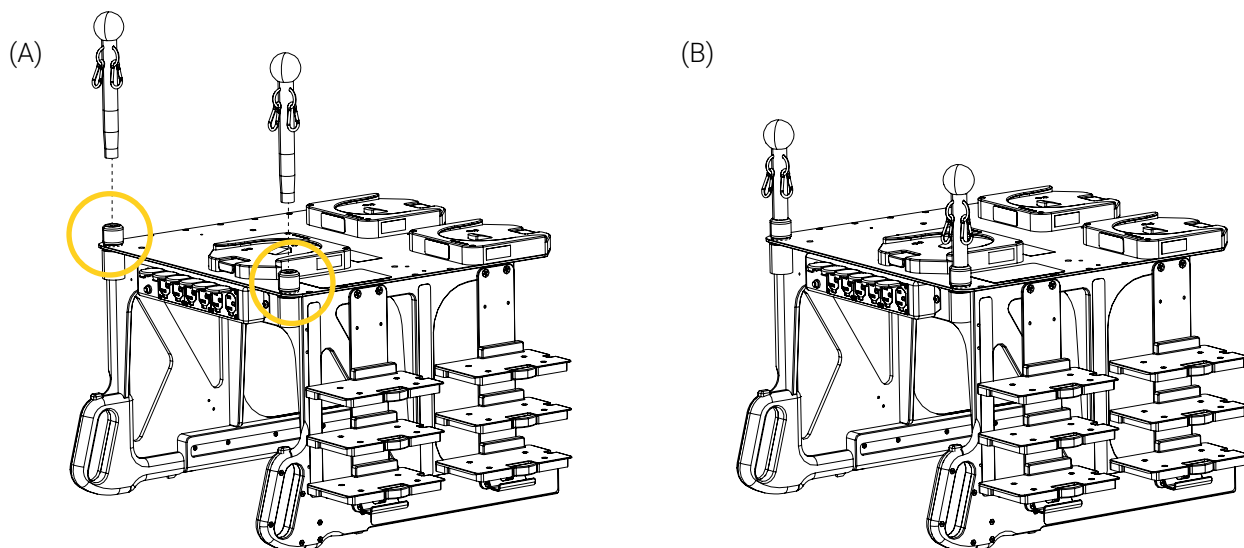

Figure 23: Installing the push bars at patient foot end
3. On the mobile structure top plate, rotate one of the two (2) the clamp block collars counterclockwise about a quarter of a turn to loosen, then insert a push bar (Figure 23 A).
4. Tighten the collar ensuring the push bar is secured (Figure 23 B).